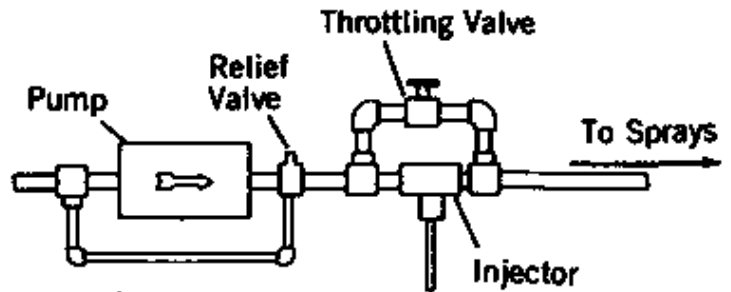

FIGURE 9a
PUMP DISCHARGE LINE: FIGS. 9a, 9b, 9c
Select a nozzle bushing from Table 5. Refer to Figures 9a, 9b, and 9c in determining which pressure column to use.
A. Fig. 9a